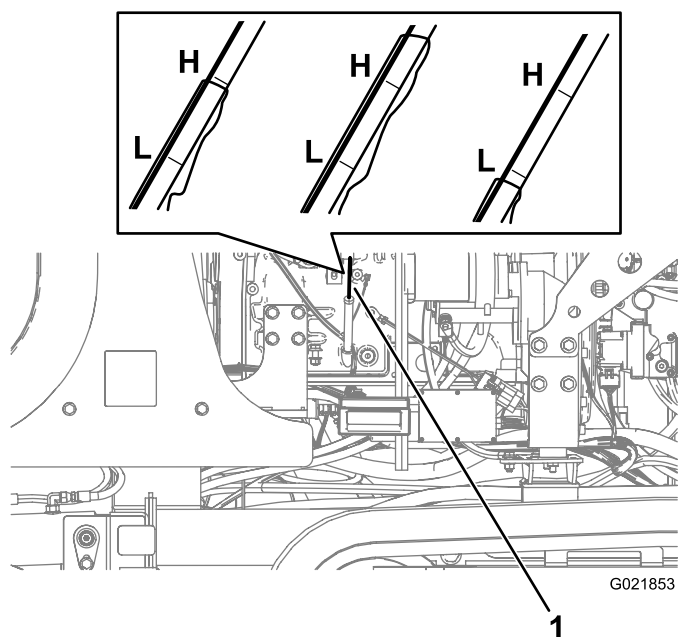

Figure 120
3. Remove the dipstick (Figure 120), and wipe it clean.